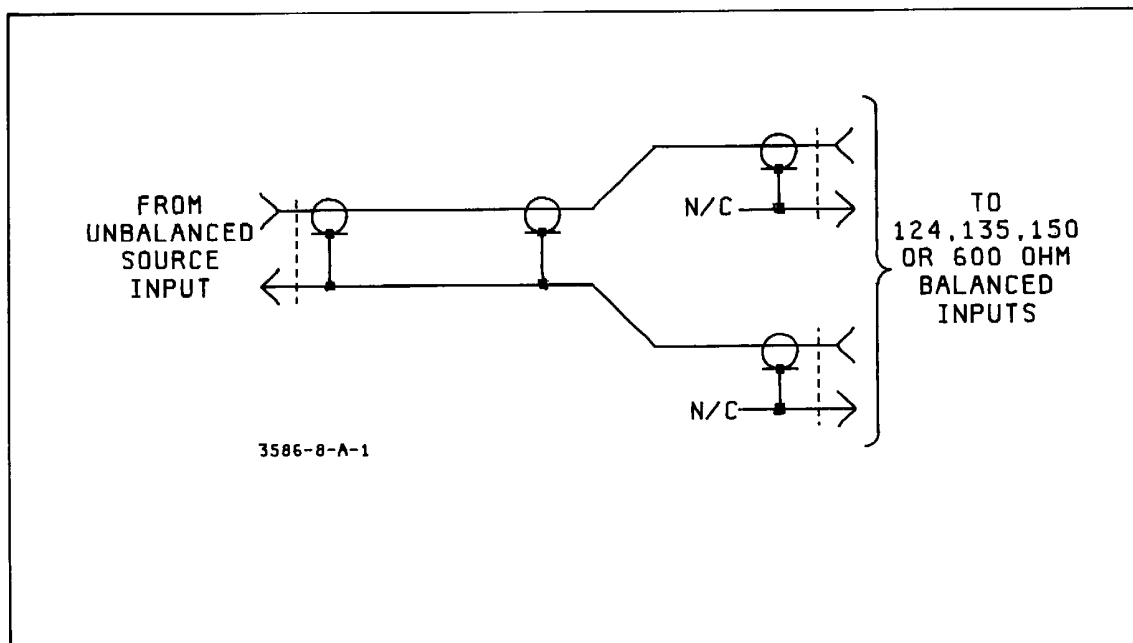

Figure 8-A-1. Unbalanced To Balanced Input Cable.
*Dual input connectors require a special cable, shown in Figure 8-A-1.